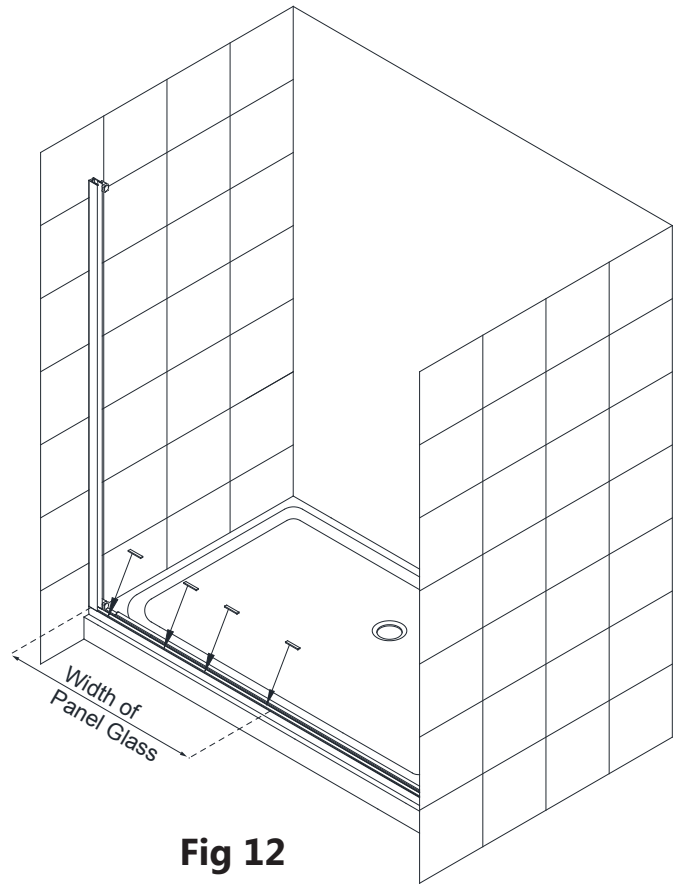

Fig 12
12. After applying silicone into the **Bottom Guide Rail (#03)**, add the 2" pieces of the **0.5mm Bottom Spacer Strip (#14)** into the **Bottom Guide Rail (#03)** to protect the bottom edge and corners of the **Stationary Panel Glass (#01)**. (Fig 12)